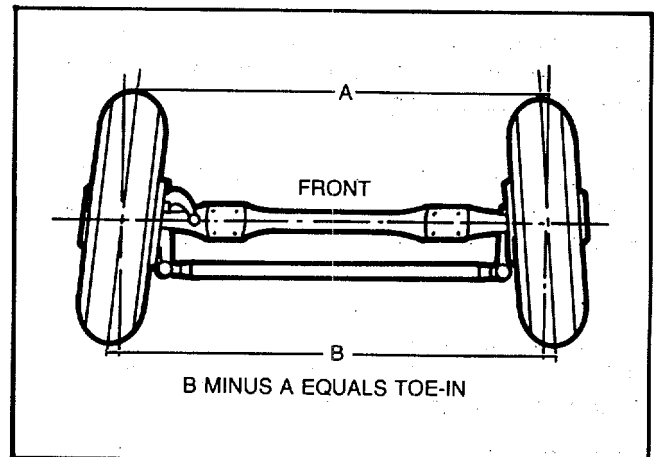

Figure 41
- G. Read toe-in (or toe-out) from scale (Figure 41).
- Toe-in (or. toe-out) is the difference between the measurement taken at the front and rear of the tires (Figure 41).